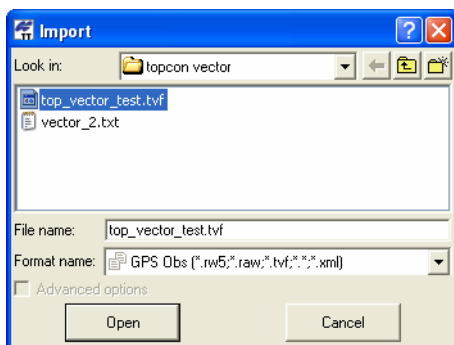

Figure 3-17. Import GPS Obs File
4. Click **Open** to import the file (Figure 3-17).